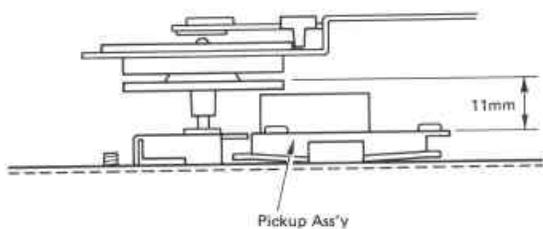

Fig. 9
- 2) Confirm that the installation distance between the top of turntable and the top of pickup ass'y is 11 ± 0.2 mm (Fig. 9)